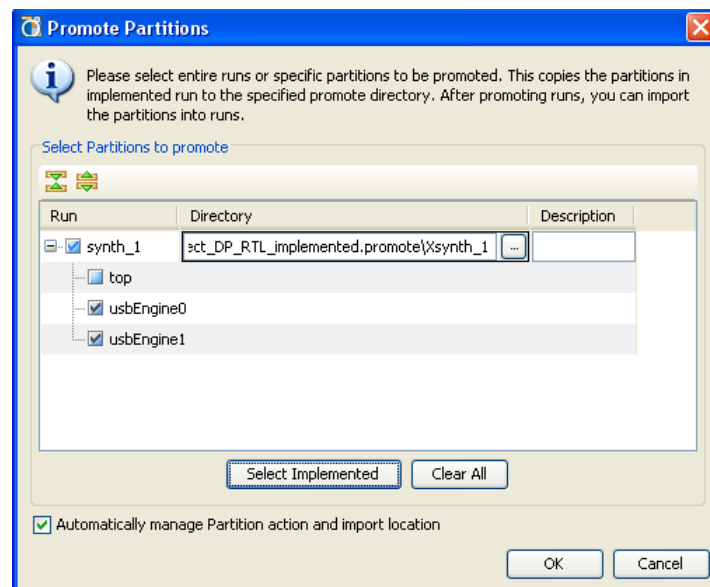

Figure 13-5: Promoting Partitions
2. The Promote Partition dialog box opens, as shown in Figure 13-5.